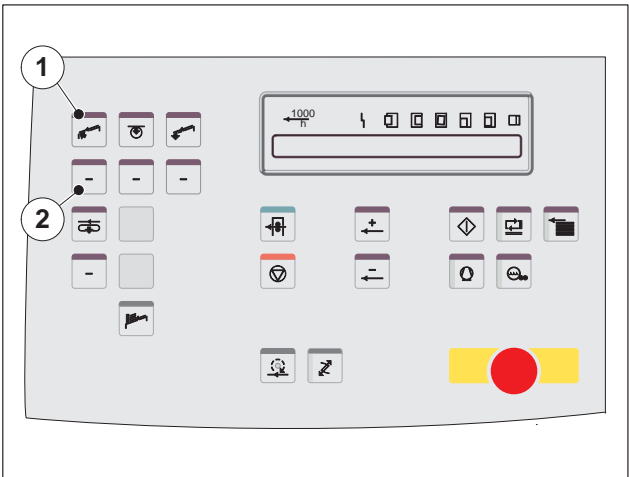

Fig. 75 Air adjustment of the blowing/suction nozzles
1. Adjust the blast air volume with the buttons on the feeder console (Fig. 75/1).
- The button (Fig. 75/1) increases the blast air volume.
- The button (Fig. 75/2) reduces the blast air volume.